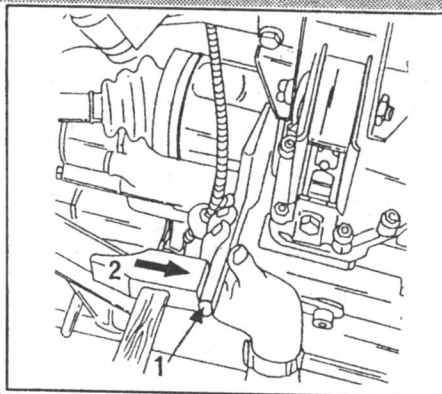

Fig. 4.4. — Removal of the L.H. drive shaft. Refer to text.
- Insert the chisel as shown in Fig. 4.4 between the CV joint housing
- When fitting the L.H. shaft refer to Fig 4.4 and check that the "O" sealing ring (7) is fitted and secured with the circlip (6). It must be assured that the circlip is fully engaged into the groove in the differential side gear.
- When fitting the R.H. drive shaft insert the drive shaft at (2) into the support bearing (Fig. 4.4). At the protruding end of the shaft fit the dust seal (5), the circlip (6) and the "O" sealing ring (7).
- Fit the bearing race (3), slightly greased, into the support bearing (2).
- Swing the tie rod (4) by half a turn so that they grip the outer track and tighten the self-locking nuts (1) to a torque reading of 1.0 kgm (7.2 ft.lb.).